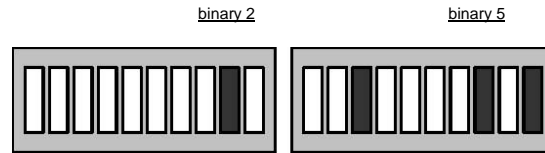

**Figure 6**
6. Stretch a string from the first camera to the last camera at the rear of the camera chassis. (Figure 6)